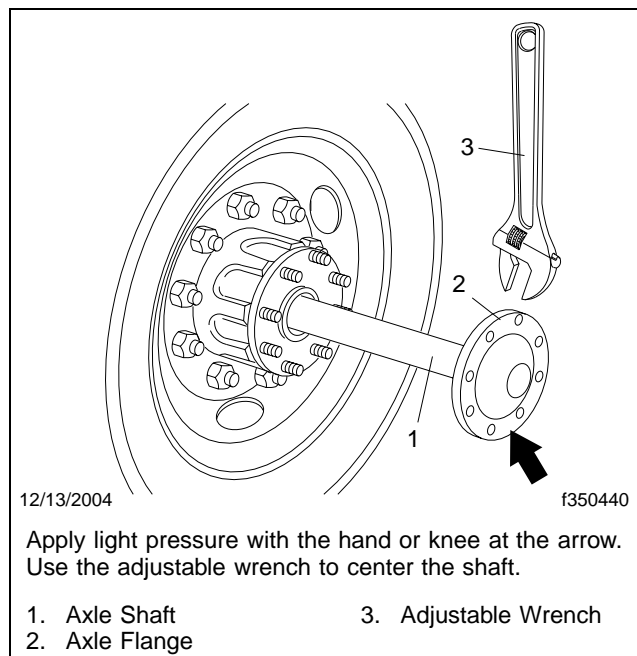

Fig. 6, Installing the Axle Shaft
3. Install the axle shaft, as follows. See **Fig. 6**.